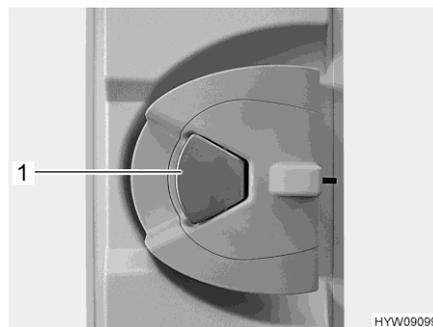

Fig. 37 Door lock (living area door, inside)
- When the door lock is locked: Pull once at the door handle (Fig. 37,1). The door is unlocked.
- Pull on the door handle (Fig. 37,1). The door is open.
- Push the door handle (Fig. 37,1).